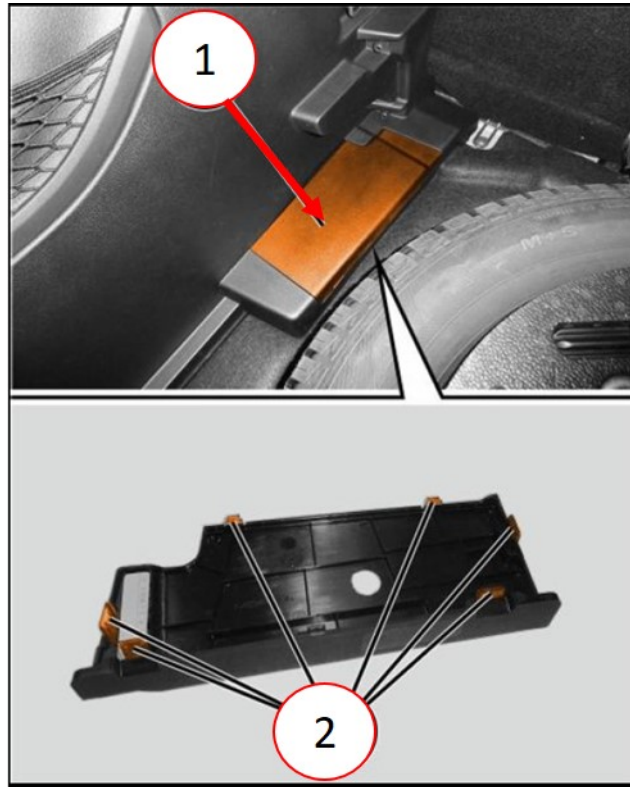

Fig. 3
- Release the retaining clips and remove the protective cover to access the High Voltage Interlock (HVIL) connector (Fig. 3) .